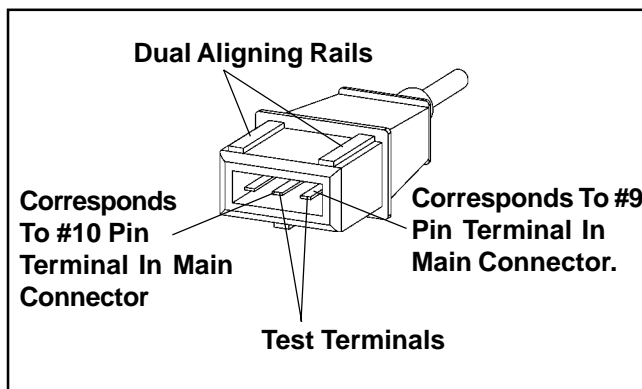

Figure 5B-4. Speed Sensor Connector.
6. Disconnect the speed sensor connector from the wiring harness. It is the connector with one heavy black lead (see Figure 5B-4). Viewing the connector as shown (dual aligning rails on top), test resistance between the terminals indicated. A reading of **$750\text{-}1000 \Omega$** should again be obtained.